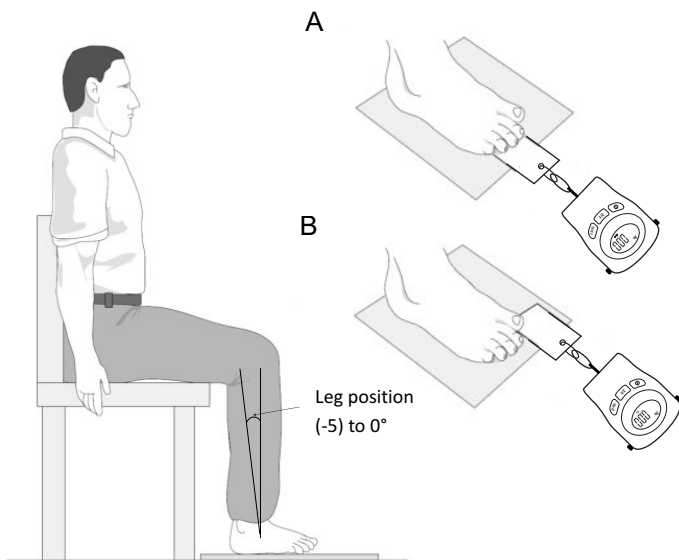

Fig. 1: Toe plantarflexor strength testing. **A**, Lesser toes **B**, Hallux
1. The patient should be seated comfortably with their leg placed at 90 degrees or inclined backwards towards the patient up to 5 degrees (Fig.1). It is best to have the leg slightly back to ensure the patient is not leaning their bodyweight onto the card whilst a test is being done.